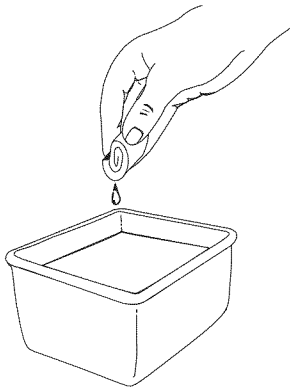

Fig. 22
3. Wash the filter in detergent and water (Fig. 22). Rinse the filter thoroughly and allow it to dry.